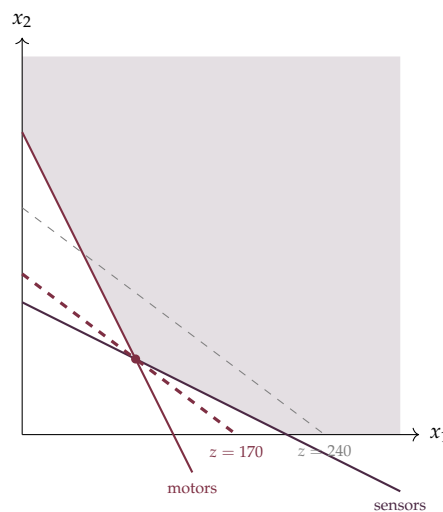

Figure 6: Spare-part boxes: the feasible set goes to infinity, and the cheapest plan is the corner $(3,2)$.
- *Sides.* At $(0,0)$: $0 \geq 8$ is false and $0 \geq 7$ is false. So for both constraints we keep the side *away* from the origin. The feasible set goes to infinity, up and to the right (Figure 6).